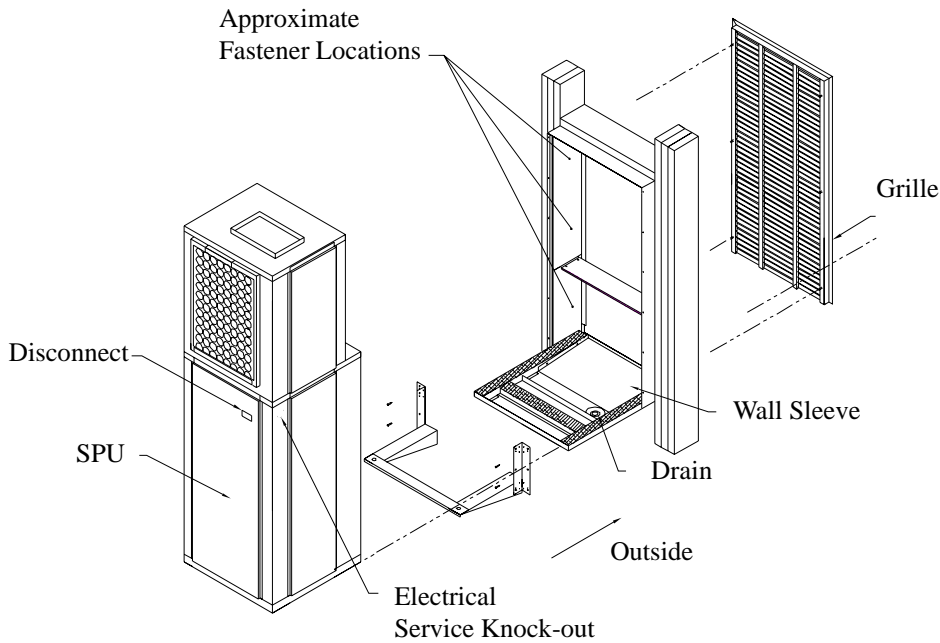

Figure 2
7. Fasten the sleeve to the wall studs at 3 locations on each side. See Fig. 2 for approximate locations. Note: It is recommended to use fasteners with seal washers to minimize the possibility of water leakage into the wall.